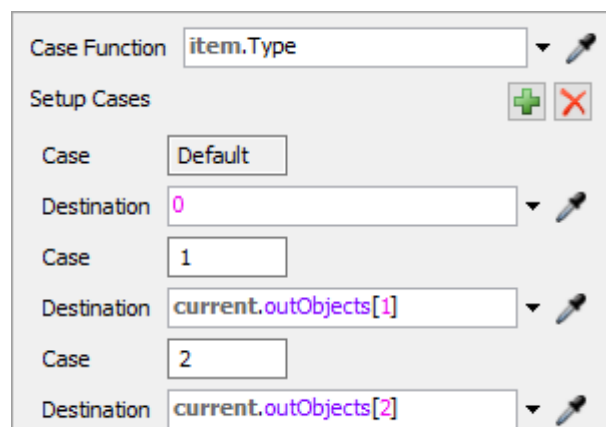

Fig. 16 Send Item by Case
2. **Send Item by Case** – allows you to send a flow element along a selected path depending on whether certain conditions are met (Fig. 16). The option works similarly to *Send to Port* → *Port by Case* for other model objects. The *Case Function* field contains an expression that will be a reference for selecting the destination.